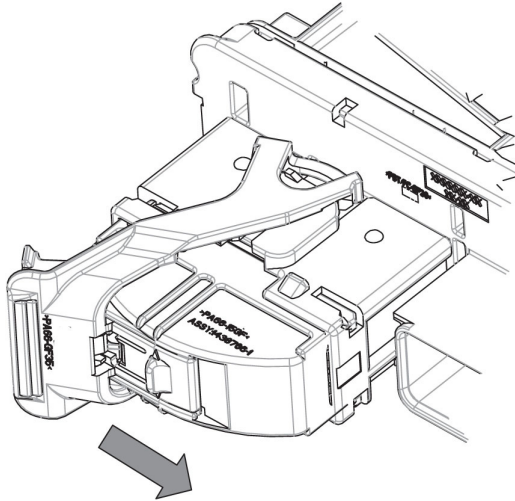

Figure 7
1. Move CPA lock back into the open (pre-set) position. See Figure 7.